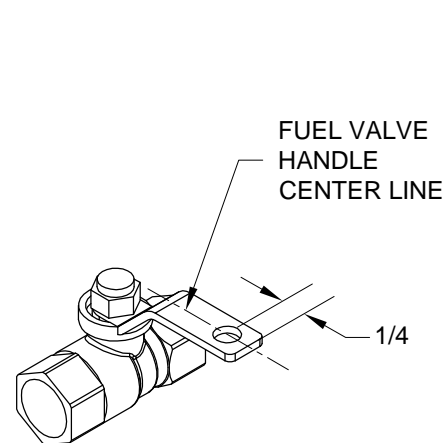

FIGURE 2: DRILLING THE FUEL VALVE 4161089 HANDLE
Step 3: Drill 1/4" the Fuel Valve 4161089 handle per the dimensions given in Figure 2.